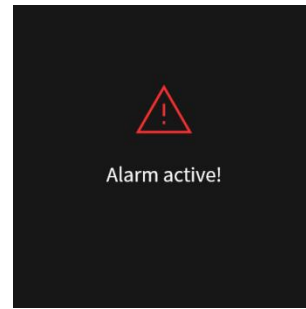

Fig.7.6(3)
1. When no application, the application download of the device is completed or the device power recover, the device will be initialized, as shown as Fig.7.6(1), you can view the SN code.